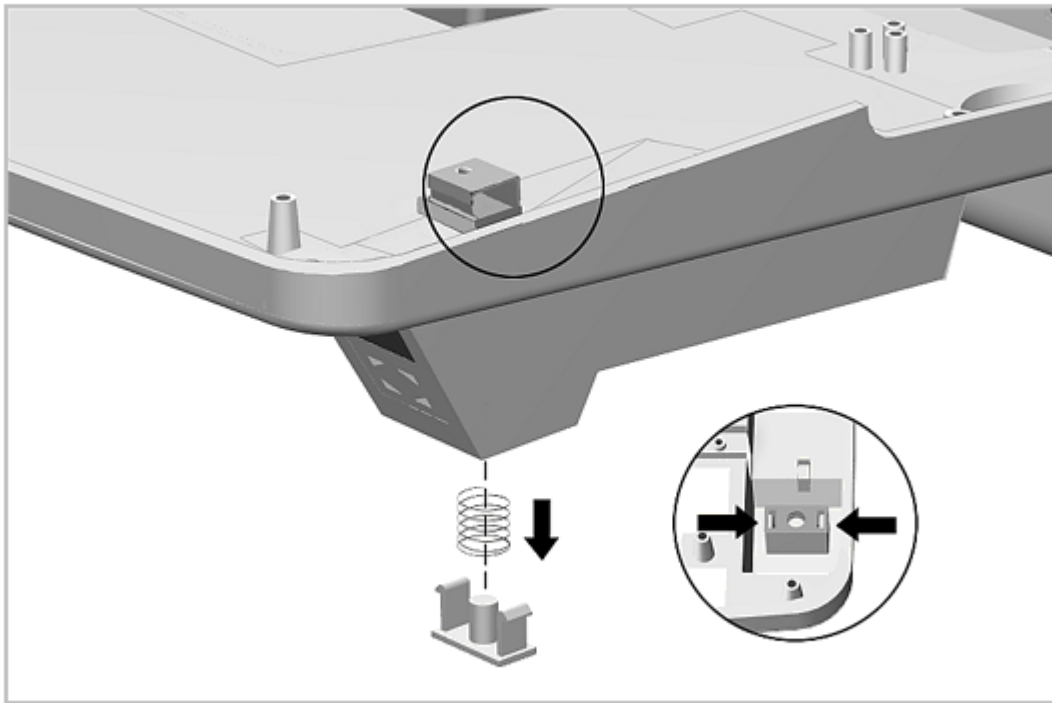

Figure 7-33. Removing the Monitor Support Cover Cap
3. Squeeze the tabs and allow the cap to drop out (Figure 7-33).